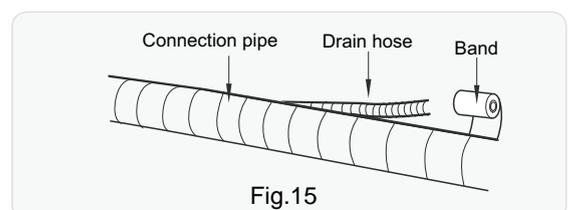

Fig.15
(2) Reserve a certain length of drain hose for installation when binding them. When binding to a certain degree, separate the drain hose.(As show in Fig.15)
(3) Bind them evenly.
(4) The liquid pipe and gas pipe should be bound separately at the end.